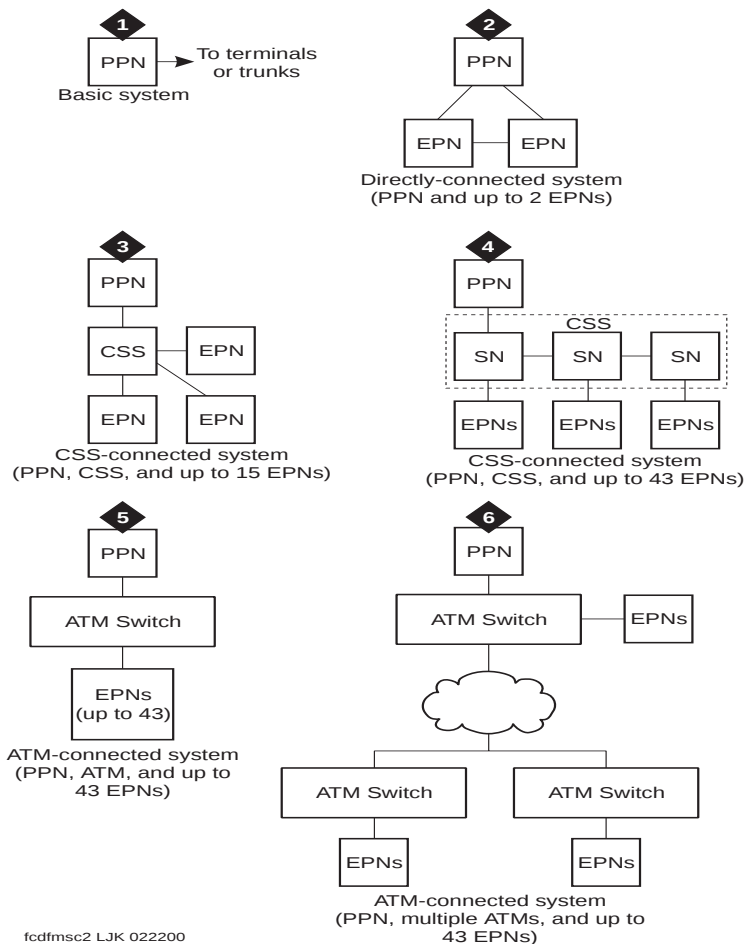

Figure 2. Main System Configurations
The basic system component is the Port Network (PN), consisting of port circuits connected to internal buses that allow the circuits to communicate with each other. See Figure 2 on page 5.
Figure 2 on page 5 shows the following 6 main system configurations: